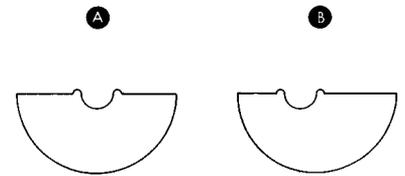

fig. 2. Comparison of rotor plates in the popular "Command" transmitter. A shows approximate shape of an SLC plate; B an SLF plate.
*Still another shape for variable-capacitor plates is called straight-line wavelength (SLW) in which the plates are shaped so that, when used to tune an inductance to resonance, the wavelength at resonance is a linear function of the angle of rotation. Practical capacitors use intermediate characteristics or a combination of these basic types (see fig. 2). Editor.